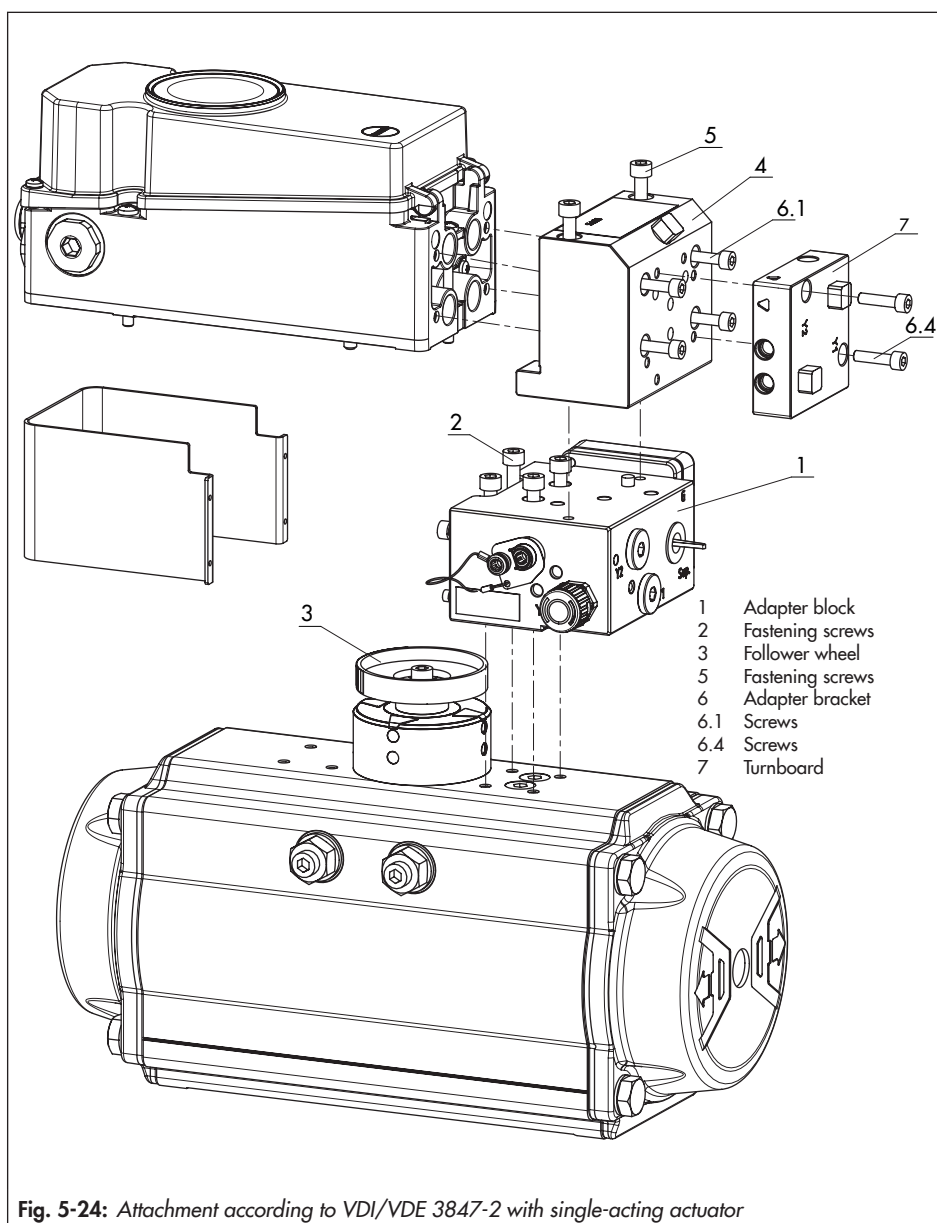

Fig. 5-24: Attachment according to VDI/VDE 3847-2 with single-acting actuator
→ See Fig. 5-24
- ➔ See Fig. 5-24
- 1. Fasten the adapter block (1) to the actuator's NAMUR interface using the four fastening screws (2). Make sure that the seals are correctly seated.
- 2. Mount the follower wheel (3) onto the actuator shaft. Use the matching shaft adapter (see Table 5-11 in Chapter 5.7).
- 3. Place the adapter bracket (4) onto the adapter block (1) and fasten it using the fastening screws (5). Make sure that the seals are correctly seated.
- 5. Align the positioner on the adapter bracket (1) in such a way that the follower pin engages into the actuator's follower wheel (3).
- 6. Fasten the positioner onto the adapter bracket (6.4) using the fastening screws (6). Make sure that the seals are correctly seated.